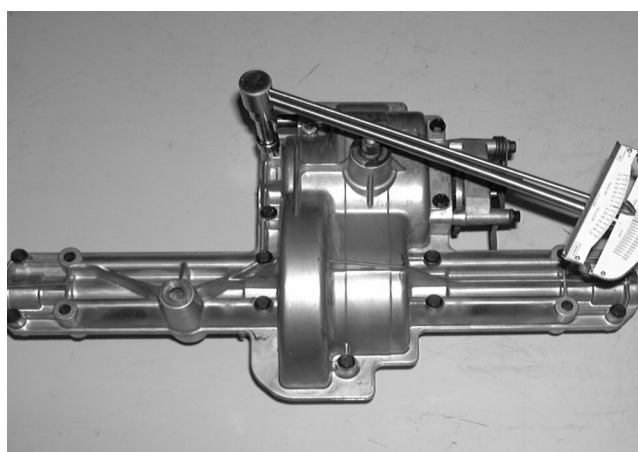

FIGURE 8.
- 20). Torque all perimeter case half self tapping screws between 90 and 110 inch-pounds using a 3/8 socket and a torque wrench. See figure 8.